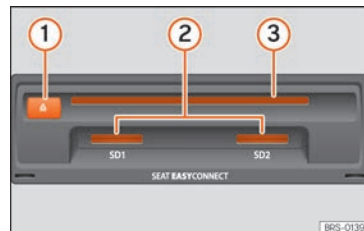

Fig. 224 Slots for data storage devices in the glove compartment.
»» Fig. 224 ③ to the point where it is drawn in automatically.
Insert the compatible memory card, bevelled edge first and with the label face up (contacts face down), into slot »» Fig. 224 ② or »» Fig. 199 ⑨, until properly inserted.